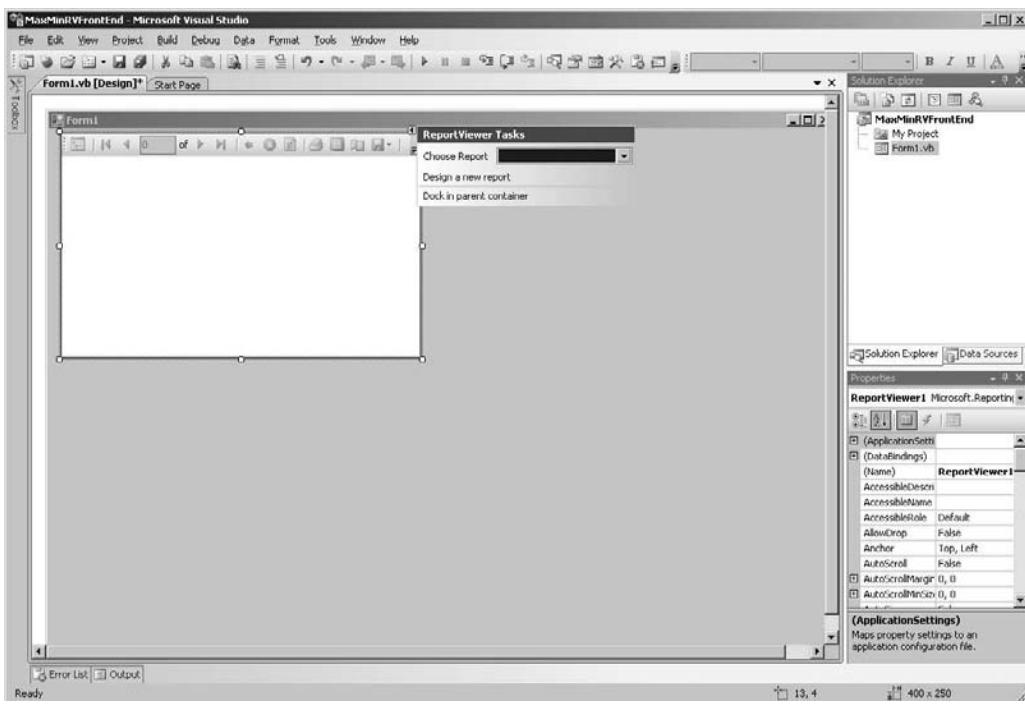

Figure 18-15 Placing a Report Viewer control on a Windows form
10. Drag the Microsoft ReportViewer control from the Toolbox and drop it on Form1 (see Figure 18-15).